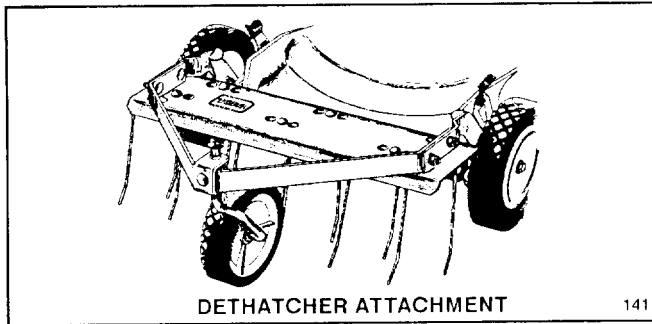

Figure 25
1. Dethatcher Kit, Model No. 59131 — As spring tines on the Toro Dethatcher (Fig. 25) scratch and vibrate through the grass, thatch is loosened and cut by the mower.